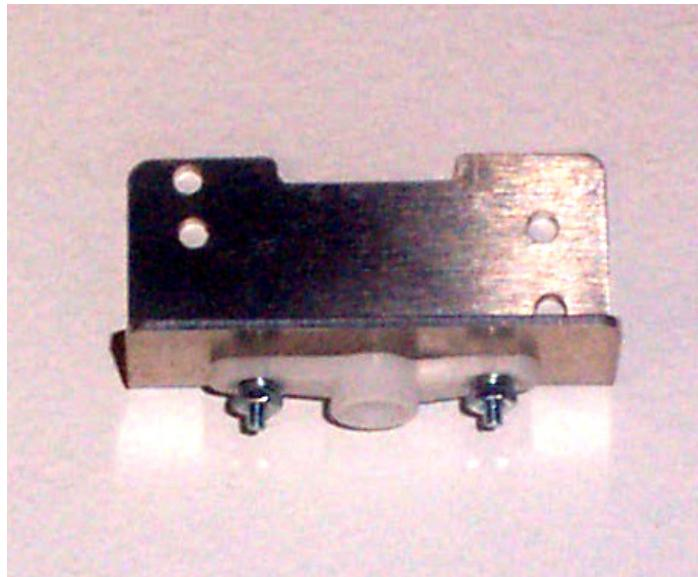

Figure 57: Sweeping Scanner Servo Bracket
1. Insert a #2 x 5/16" long screw through the top of the bracket. Fasten the servo arm on with a washer, lock washer and nut as shown in Figure 57.